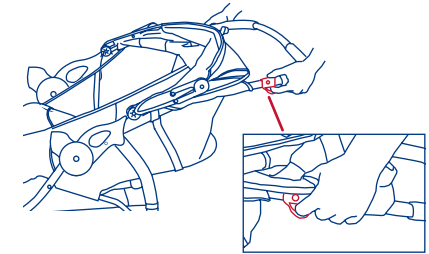
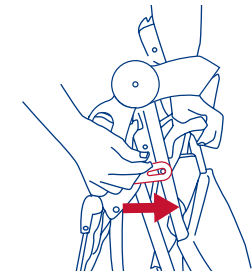

Fig. 20a
Fig. 20b
• The stroller is folded by simultaneously pulling each trigger (Fig. 20a). When the fold latches are released, the handle will begin to fall toward the floor. Release the trigger and press downward on the stroller handle until the stroller is completely folded. Secure the stroller in the folded position by locking the fold latch, located on the right side of the stroller, over the rivet that protrudes from the frame (Fig. 20b).